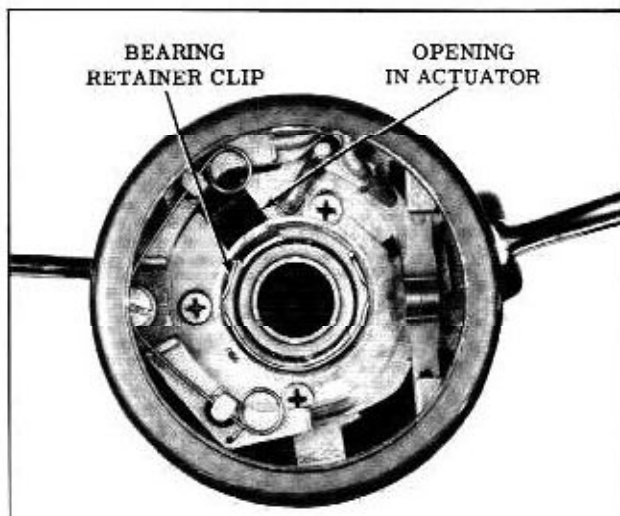

Fig. 4-26 Upper Bearing Retainer
21. Install upper bearing and shaft retainer clip with opening aligned with slot in actuator to provide clearance for horn contact wire. (Fig. 4-26)